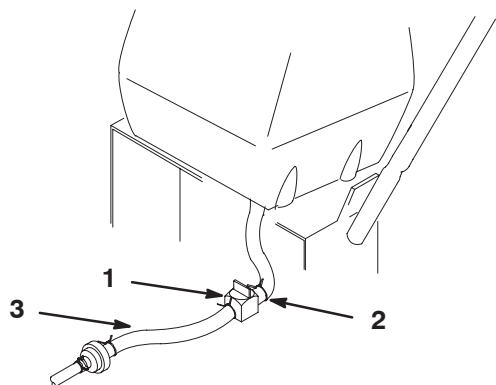

Figure 36
3. Close the fuel shut-off valve at the fuel tank (Fig. 36).
4. Squeeze the ends of the hose clamp together and slide it up the fuel line away from the valve (Fig. 36).
5. Pull the fuel line off of the valve (Fig. 36).
2. Close fuel shut-off valve at the fuel tank (Fig. 36).
6. Open the fuel shut-off valve at the fuel tank (Fig. 36).